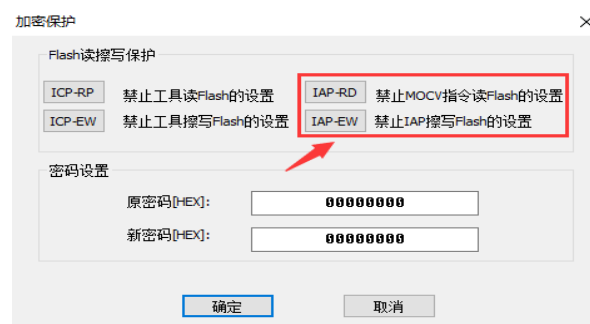

Figure 2-7
2. Open the IAP-RD and IAP-EW tabs respectively. (Figure 2-7)